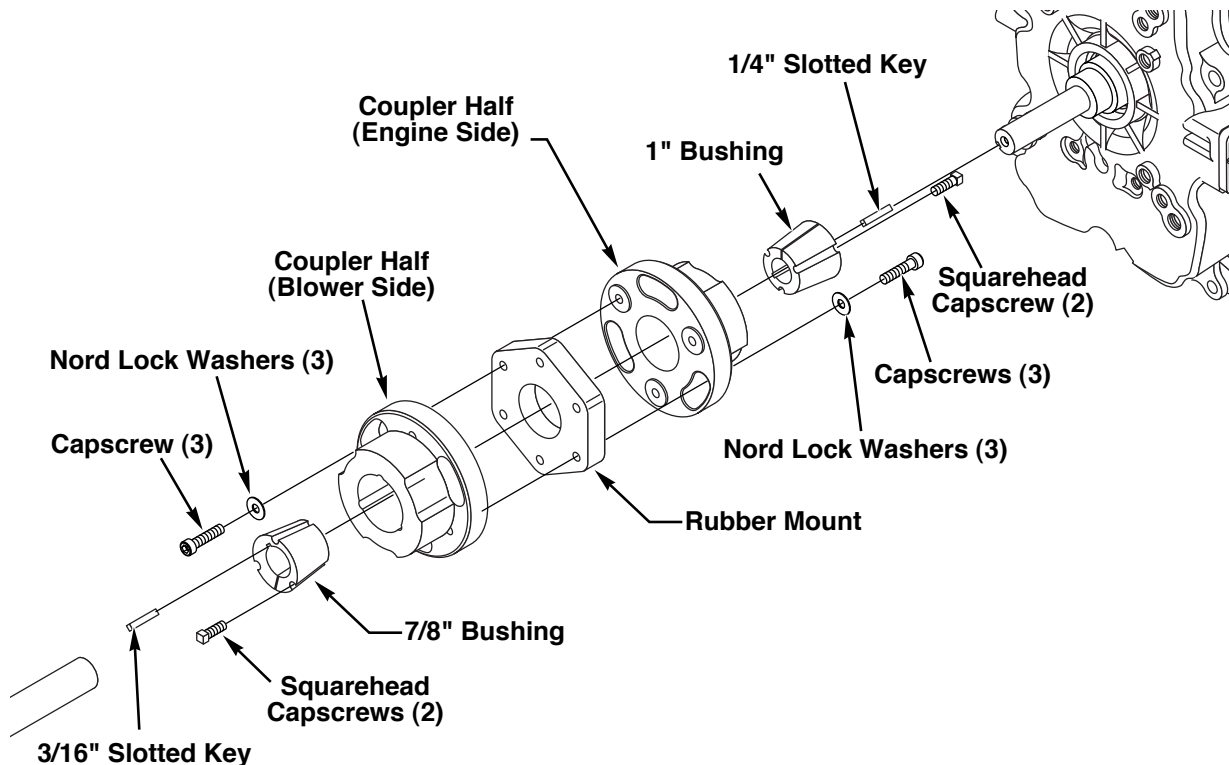

Figure 15- Coupling Assembly
4. To remove coupling halves. Remove the 6 capscrews with washers (3 on the blower side, 3 on engine side). Then remove the 4 squarehead capscrews located on the bushings, inside the coupler halves.(2 on the blower side, 2 on engine side). Take 1 squaredhead capscrew and tighten in the center hole of both the blower and engine bushing. Break loose from the shaft. Reference Figure 15.